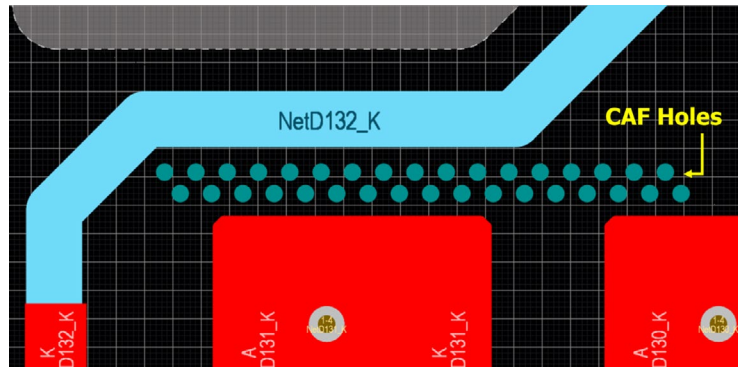

Figure 49. CAF Holes with Two Rows.
1. For nodes with >600 V potential between them, the use of slots is preferred. If slots are impossible for space reasons, CAF holes can be implemented instead. The holes must be staggered, overlap by at least 10%, and be at least 2-3 rows, as shown in Figure 49.